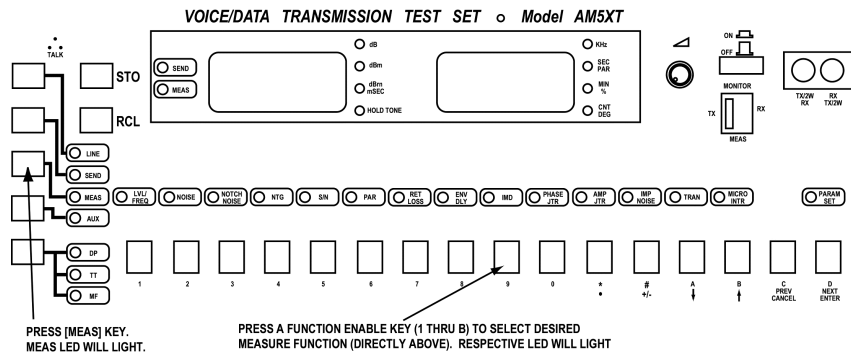

Figure 8-1. Procedure to Enable Measure Modes
The AM5XT/eXT contains highly versatile detectors and filters which are connected to the receive line (RX) under test. The term MEASURE refers to the detection mode being used in order to detect and display the characteristics of the received signal(s). See Figure 8-1 for instructions to select the desired Measure Mode. Note that **MEASURE** Functions are color-coded BLUE.